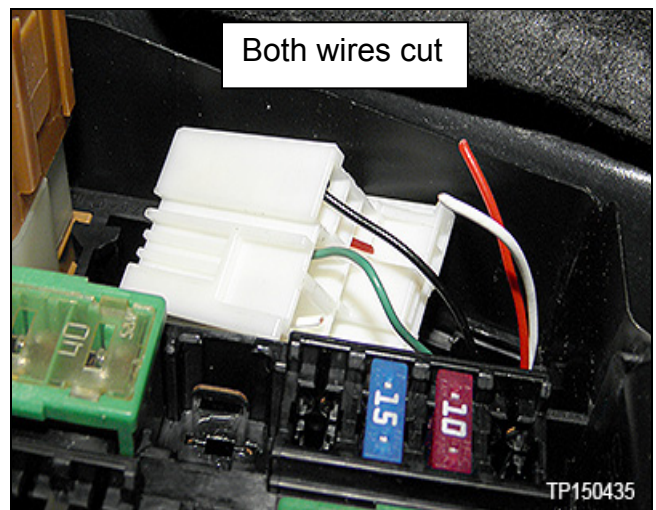

Figure 5
6. Cut the red and white wires flush with the bottom of the stop lamp relay connector (Figure 5).